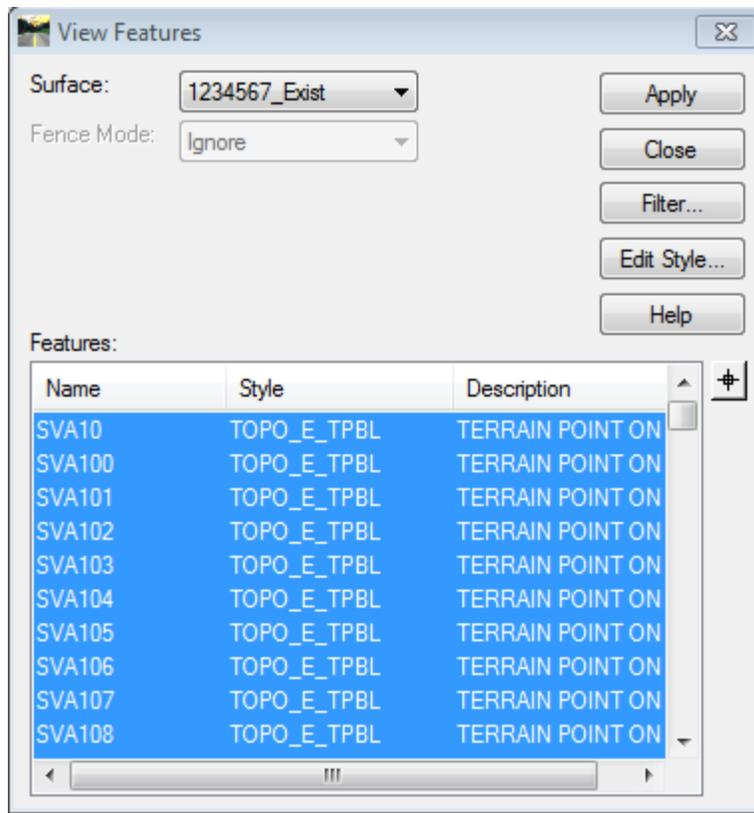

Figure L2-4 View Features dialog
42.	<p>View All Surface Features.</p> <ul style="list-style-type: none"> <li>In InRoads, select Surface ► View Surface ► Features.</li> <li>In the View Features dialog use the pull down menu and ensure the Surface is set to 1234567_Exist.</li> <li>Right mouse click in the Features: window and choose Select All.</li> <li>Verify your View Features dialog matches that shown in Figure L2-4 and all the Features are highlighted in blue.</li> <li>Click Apply. Be patient, viewing may take a moment.</li> <li>Click Close.</li> <li>In MicroStation, click the Fit View button as shown here.</li> </ul> <div style="text-align: center; margin: 10px 0;">  <p>Fit View</p> </div> <ul style="list-style-type: none"> <li>Verify your view in MicroStation matches that shown in Figure L2-5.</li> </ul>